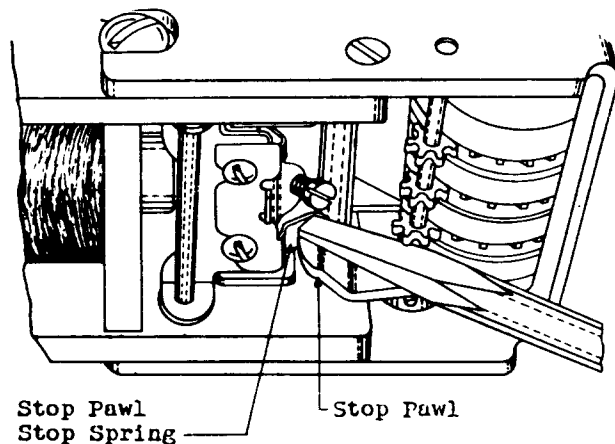
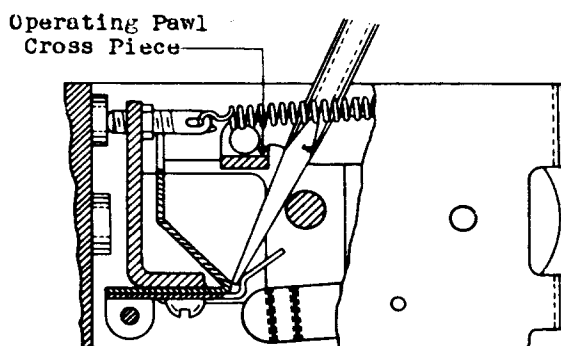

Fig. 12 – Method of Adjusting Stop Pawl Stop Spring for More Clearance
Fig. 13 – Method of Adjusting Stop Pawl Stop Spring for Less Clearance
- (1) If there is insufficient clearance between the stop pawl and the stop spring, the units wheel cannot be turned manually without forcing when the armature is held in the nonoperated position. To obtain the required clearance, move the strip of registers forward as described in 3.002. Hold the armature in the operated position and carefully press upward and back against the tip of the stop spring with the blade of the 3-inch cabinet screwdriver as shown in Fig. 12. Extreme care should be used not to exert too much pressure since a very slight amount of clearance permits a relatively large movement of the units wheel. In case there is too much clearance, hold the armature in the operated position, insert the tip of the screwdriver blade between the rear of the stop spring and the armature bracket as shown in Fig. 13 and adjust the stop spring forward by carefully pressing the screwdriver blade against the operating pawl cross piece.